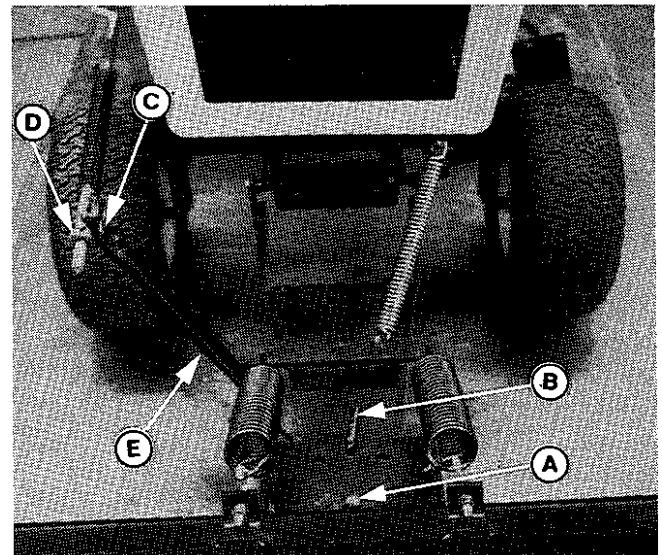

Figure 2. Dozer Blade Removal
3. Remove spring clip from king pin (A, figure 2). Remove king pin and pivot pin (B) from push bar. Slide dozer blade forward and **remove** from push bar.
4. Remove cotter pin (C) from rod guide(D). Remove rod guide from hitch bracket (E). Push bar should now be free to **move** up and down.
8. Lower push bar and install dozer blade with kingpin (A, **figure 2**), spring clip, and pivot pin(B). Reattach rod guide (D) and secure with cotter pin (C).